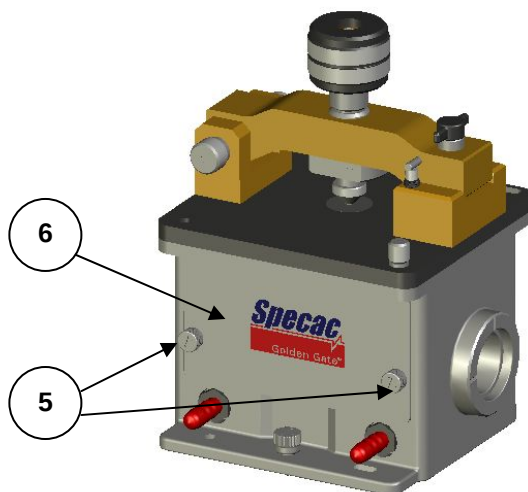
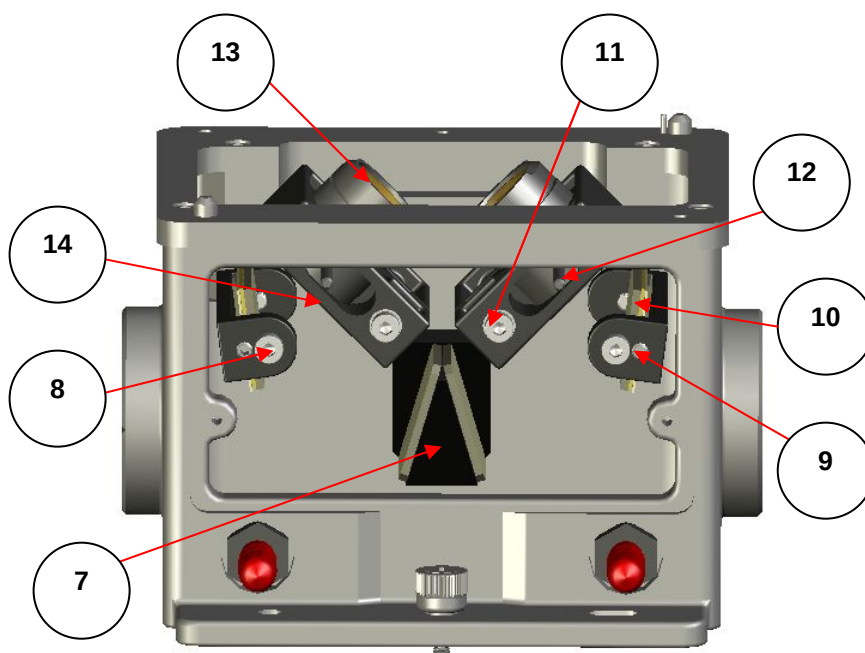

Fig 12: Optics Cover Removal from Golden Gate™ ATR System
Fig 13: View of Optical Components in the Golden Gate™ ATR System
1. Loosen the two thumb screws (5) and remove the front cover (6) to reveal the optics (See Figs 12 and 13). The diamond top plate has been removed from Fig 13 for clarity.